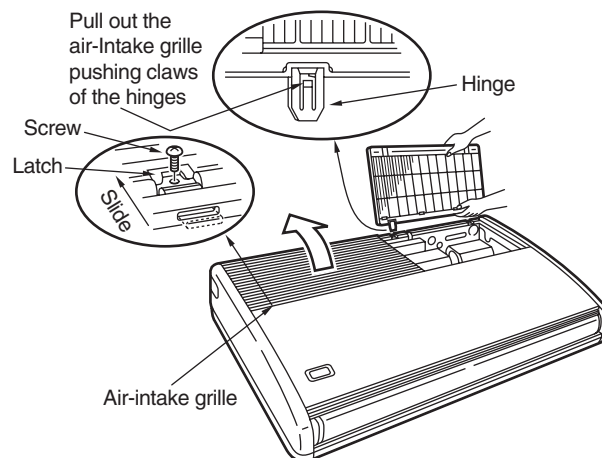
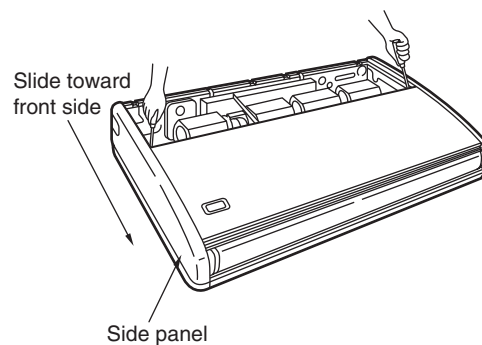

Fig. 1-54
Fig. 1-55
- (5) Before suspending the indoor unit, remove the 2 screws on the latch of the air-intake grilles, open the grilles, and remove them by pushing the claws of the hinges as shown in Fig. 1-54. Then remove both side panels sliding them along the unit toward the front after removing the two screws which fix them. (Fig. 1-55)